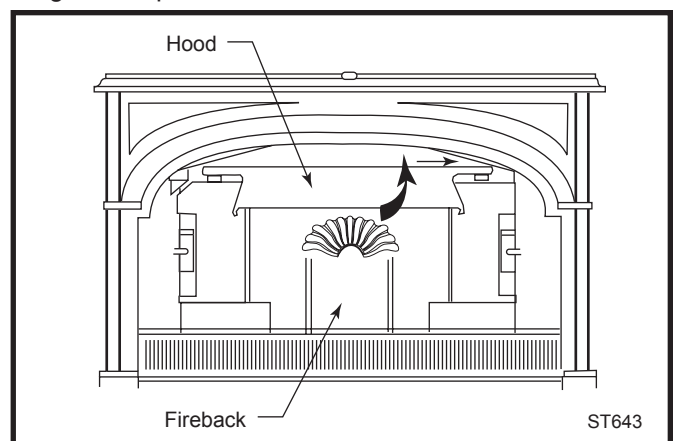

Fig. 34 Release the hood by lifting its bottom edge and sliding to one side.
1. Release the hood from the fireback by swinging the hood upward and then sliding it to either side. (Fig. 34)